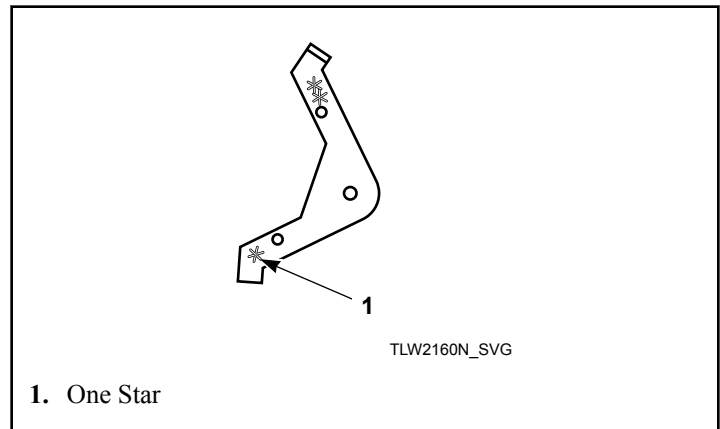

Figure 36
2. Install extension lever with arm that has one star facing down. Refer to *Figure 36*.